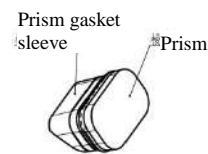

Figure 5-18
- Cover the new prism gasket sleeve onto the prism and ensure that the gasket sleeve is uniform (see Figure 5-18);